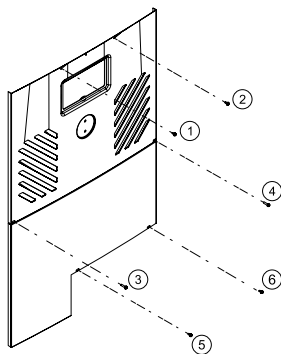

Figure 127. Sheet Metal Screws to Remove Control Panel
2. To access the heater's front control cover panel, use a 1/4" hex head screwdriver to unscrew the six (6) screws. See Figure 127.